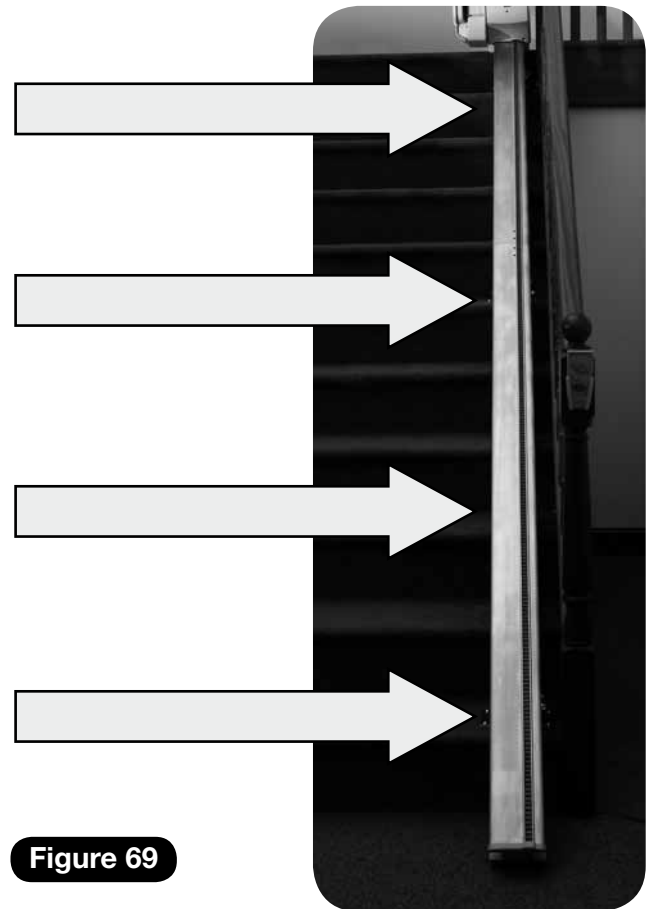

Figure 69
- a Apply a small amount of petroleum jelly at 4 equally spaced points along the track in the rack recess (**Figure 69**).